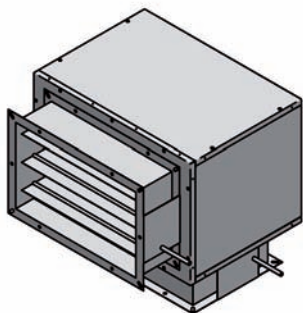

fig.1
- Possibility to invert the section so as to allow air intake from the bottom (Fig. 1) or top (Fig. 2).